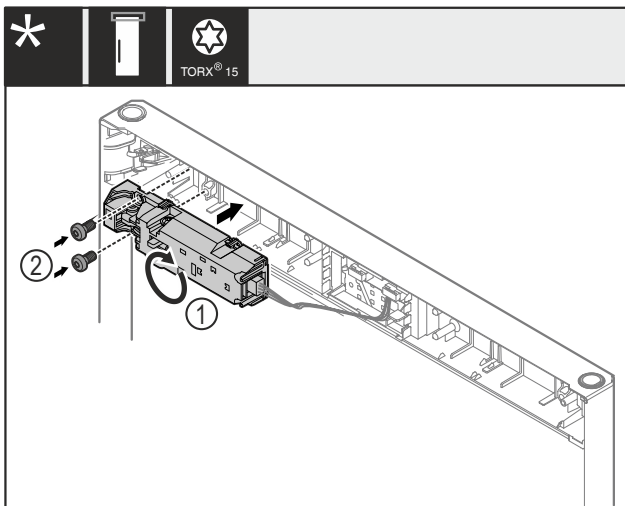

Fig. 23
- Turn the remote lock Fig. 23 (1) by 180° and attach on the opposite side.
- Fasten the remote lock Fig. 23 (1) with screws Fig. 23 (2).